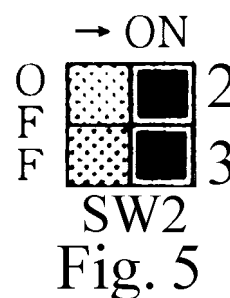

Fig. 5
- 13) Set the Infinity to 'Forced High' combustion by setting both No. 2 and No. 3 dipswitches of the bottom (SW2) set to 'ON'. (fig 5) Ensure maximum water flow.